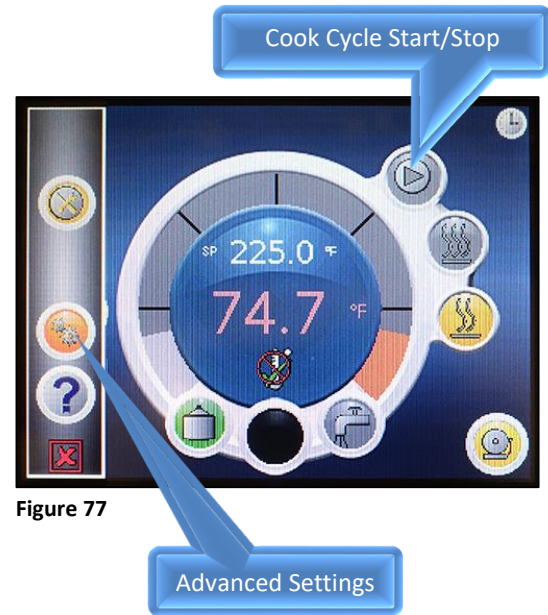

Figure 77
4. Press the **Cook Cycle Start** button, which turns the heating element on, Fig. 77. When **Cook** is in the **On** position, the background on the Cook Cycle On/Off button is red.
6. When the water boils, press the **Cook Cycle Stop** button (Square), Fig. 77, and it will revert to **Stop** with green background.